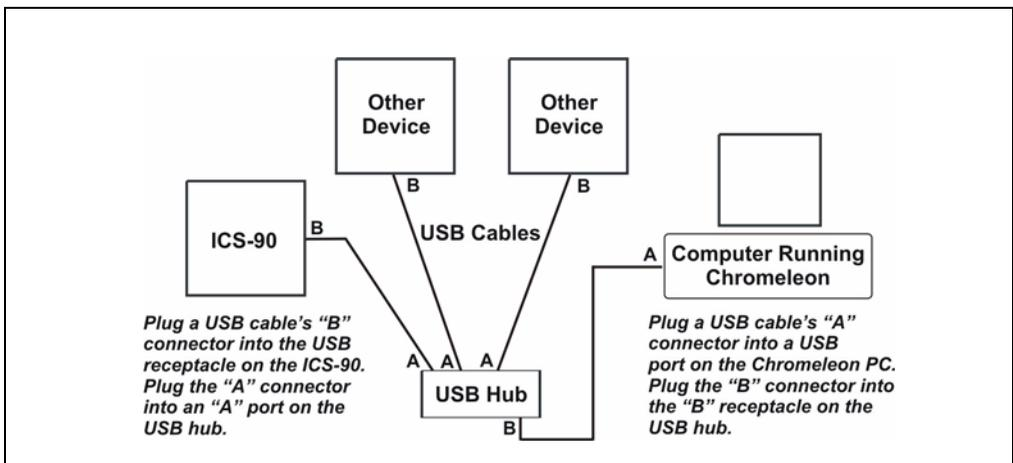

Figure B-4. Example Connections: Three ICS-90s Connected to an External Hub
The ICS-90 rear panel (see Figure B-4) provides a USB receptacle for connecting the ICS-90 to a USB port on the Chromeleon PC or a USB hub.
3. If there are no unused USB ports on the PC, connect the ICS-90 to an external USB hub (P/N 060392) and connect the Chromeleon PC to the hub (see Figure B-4).